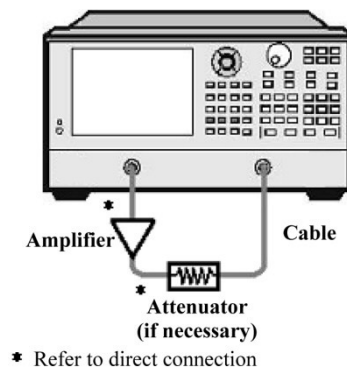

Figure 8.17 Absolute output power measurement connection
- 4) Connect the amplifier and provide DC bias as shown in Figure 8.17. If necessary, use an external attenuator to fully attenuate the output power of the amplifier so as not to cause compression or burnout of the receiver at port 2 of the analyzer.